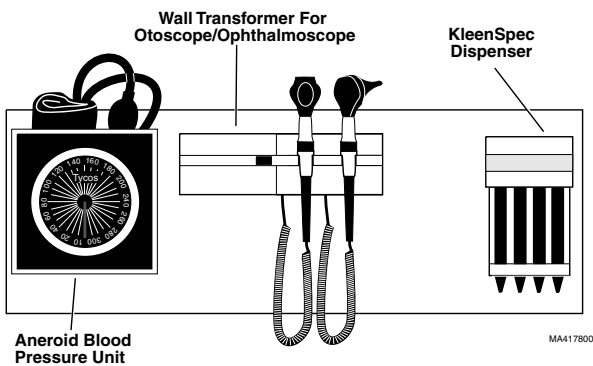

FIGURE 3. INSTRUMENT LOCATION FOR AN INTEGRATED PANEL - WITHOUT THERMOMETER
8. Mount the instruments to the Integrated Panel as follows using Figure 3, 4, 5, 6 or 7 to properly position the instruments: